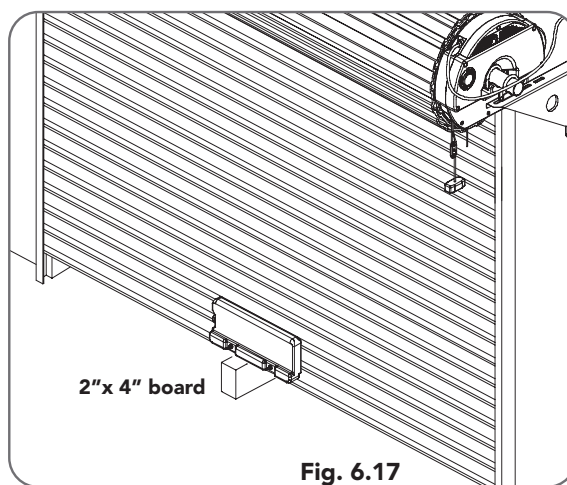

Fig. 6.17
- Place an object approximately 1-1/2" (38mm) high (or a 2" x 4" board laid flat) on the floor under center of sheet door opening (Fig.6.17)